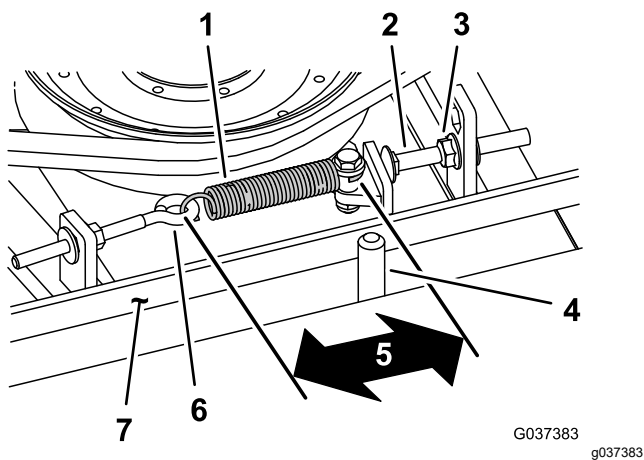

Figure 115
When properly tensioned, the inside measurement of the extension spring (hook to hook) should be approximately 8.3 to 9.5 cm (3-1/4 to 3-3/4 inches). Once the correct spring tension is attained, adjust the stop bolt (carriage bolt) until there is approximately 2 to 5 mm (0.065 to 0.185 inch) clearance between the head of the bolt and the idler arm (Figure 115).
Note: Ensure that the belt is positioned on the spring side of the belt guide (Figure 115).
- Loosen the eye bolt (Figure 115).
- Loosen the flange nut securing the stop bolt to the mounting tab and move the idler pulley away from the belt (Figure 115).
9. Connect the extension spring (Figure 115) to the eye bolt and tension the belt as follows: